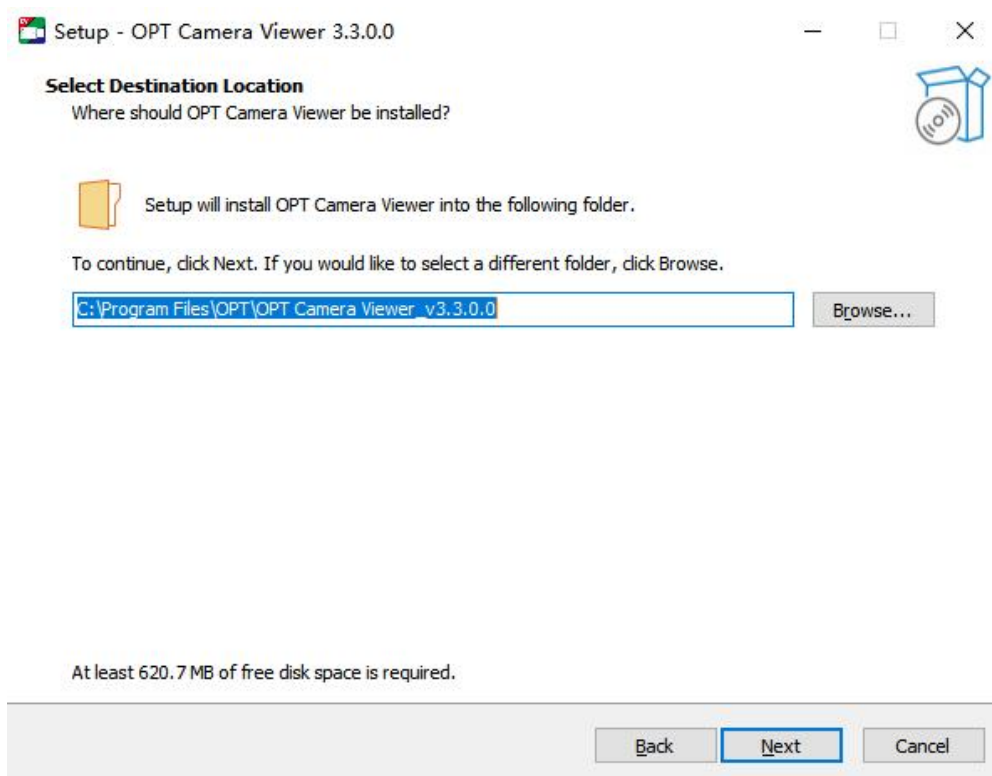

Figure 3-4 Installation folder window
5. Enter the installation folder window as shown in fig. 3-4, select the software installation path (the default path is: C:\Program Files \OPT\OPTCameraViewer Demo) and click the next button to